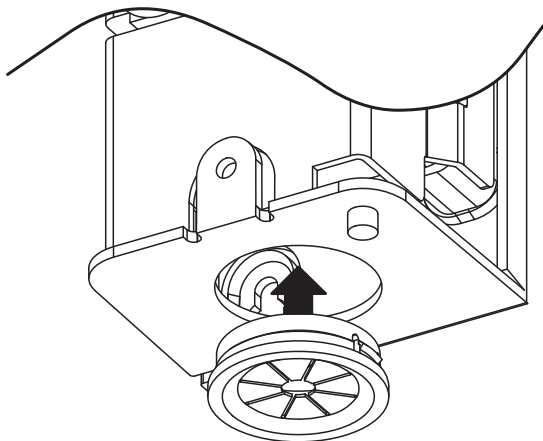

Figure 11 Attaching the grommet
- (1) Insert the grommet in the wiring port as illustrated in Figure 11.